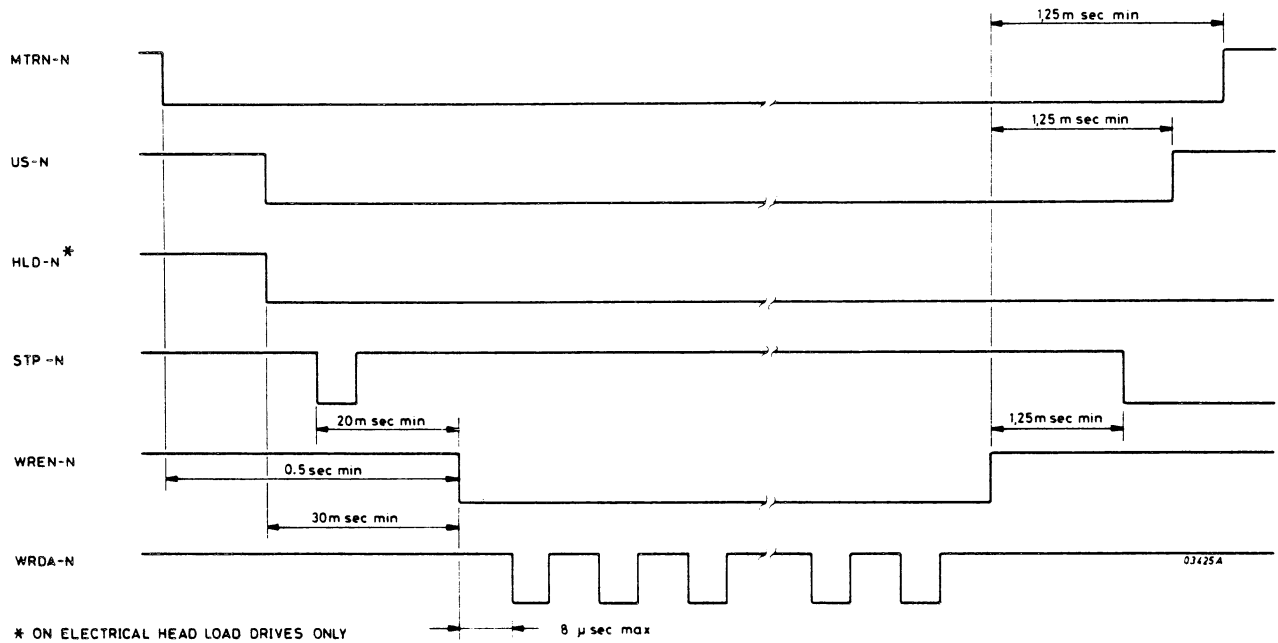

Figure 2.14 WRITE INITIATE TIMING
2.16 WRITE OPERATION (FIGURE 2.14)
The figures marked 'min' on figure 2.14 indicate the minimum periods which the controller must allow between actions.